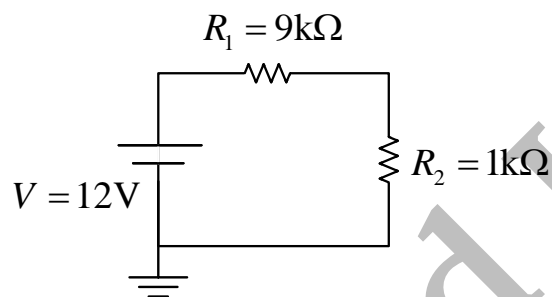

Figure 1: A voltage divider circuit.
**Consider the circuit shown in Fig. 1**